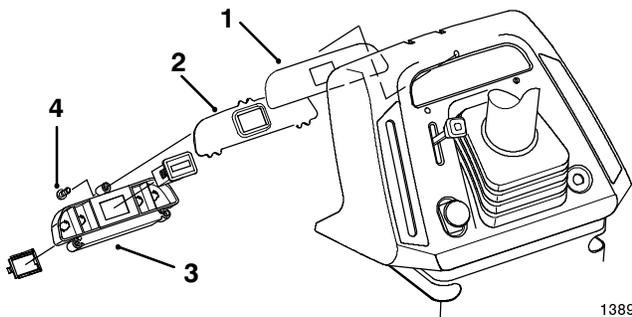

Figure 4
2. Install appropriate decal onto the flat side of new lens (Fig. 4).
3. Place the lens onto the indicator light module. Insert the module and lens assembly into the opening in the dash and secure in place with three Phillips screws (Fig. 4).